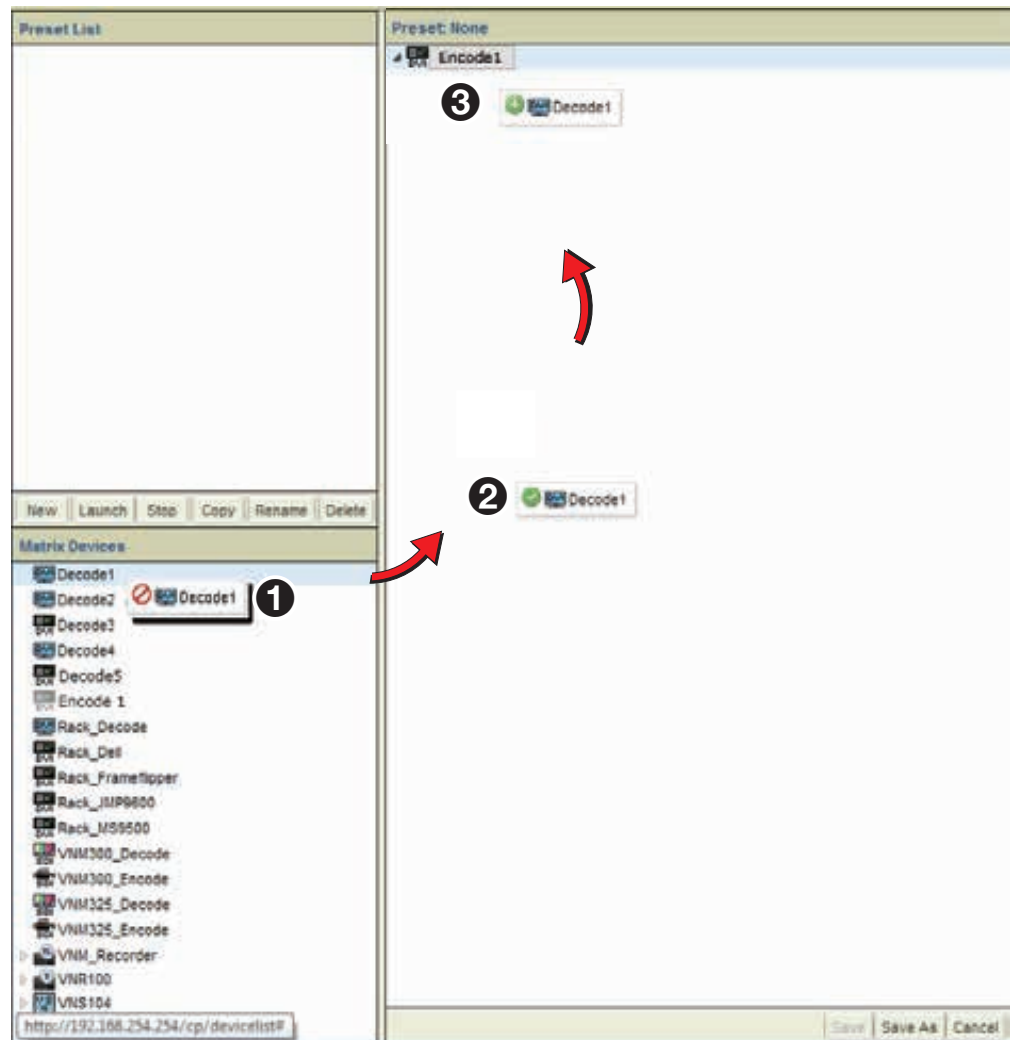

Figure 102. Preset Workspace, Add a Decoder
5. Add a decoder to the **Preset** panel. Click on and hold the desired decoder (see figure 102, ❶).